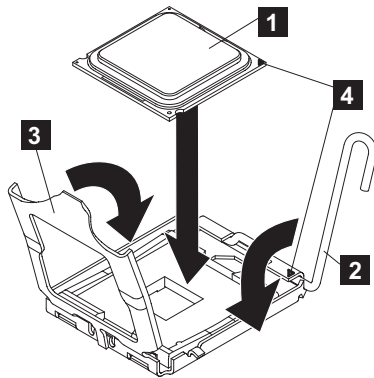

Figure 260. Closing the SAN Volume Controller 2145-CG8 or 2145-CF8 microprocessor-bracket frame
- Align the triangular alignment mark (4 in Figure 260 on page 259) on the microprocessor on the microprocessor installation tool with the triangle alignment mark on the microprocessor, then place the microprocessor on the underside of the tool so that the tool can grasp the microprocessor correctly onto the bottom of the installation tool.
To align the microprocessor with the socket, use the triangular alignment cutout on the microprocessor socket and the triangular alignment mark (4 in Figure 260 on page 259) on the microprocessor. Also use the position of the notches to align the microprocessor.